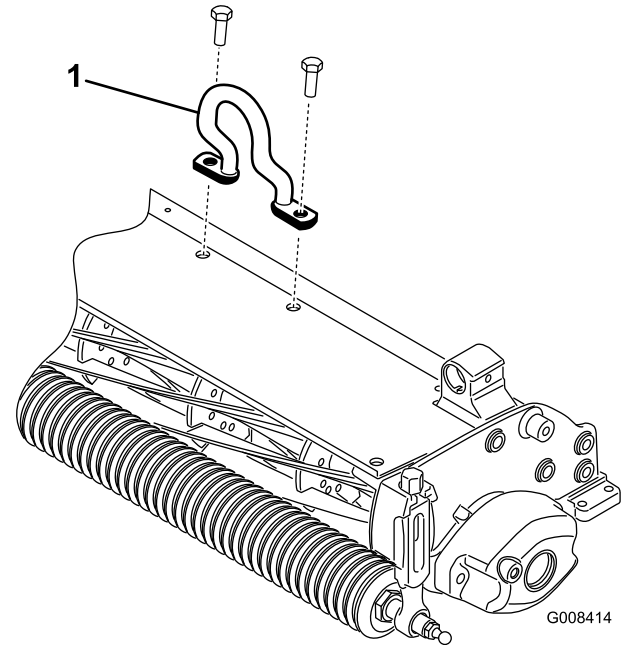

Figure 12
2. Install the offset lift hook (Figure 12) to the top of the cutting unit with (2) M10–1.5 bolts. Torque the bolts to 25–30 ft–lbs. (34–40 N·m). The offset lift hook should be positioned with hook forward.